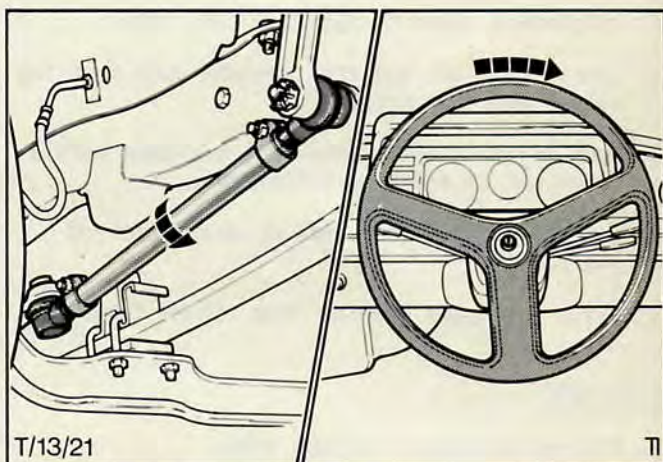

Fig.49. Steering wheel misaligned clockwise, rotate drag link anti-clockwise.
3. If alignment mark on steering shaft is within 30° of 12 o'clock position remove steering wheel retaining locknut and centralise steering wheel Fig.49.